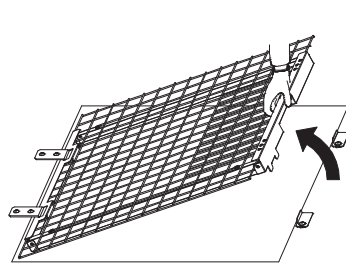

Figure 5
- (2) Lift the protective net slowly by pivoting around the latching hooks. (Refer to **Figure 5**.)